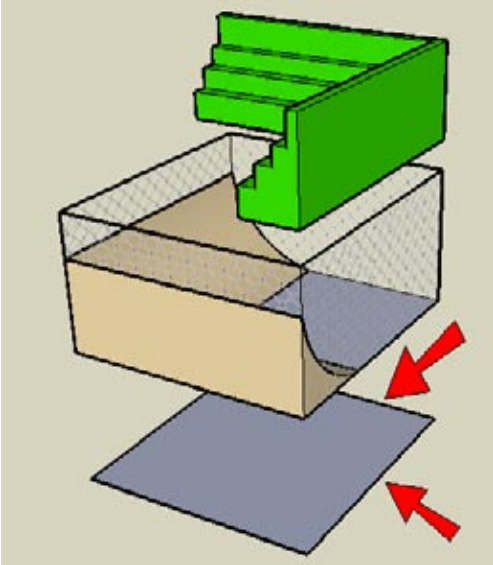

Figure 4-57
11. Use the other two edges as the Follow Me path for the steps (Figure 4-57).